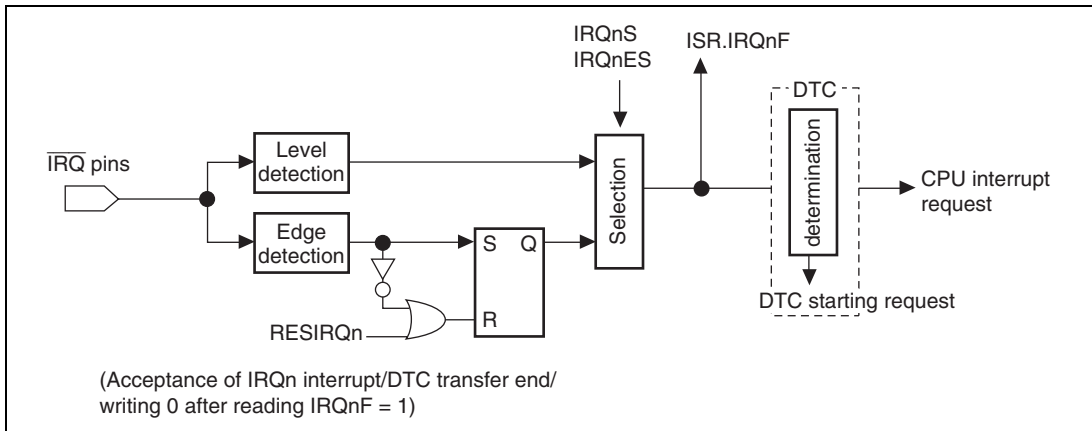

Figure 6.2 Block Diagram of IRQ7 to IRQ0 Interrupts Control
In IRQ interrupt exception processing, the interrupt mask bits (I3 to I0) of the status register (SR) are set to the priority level value of the accepted IRQ interrupt. Figure 6.2 shows the block diagram of this IRQ7 to IRQ0 interrupts.